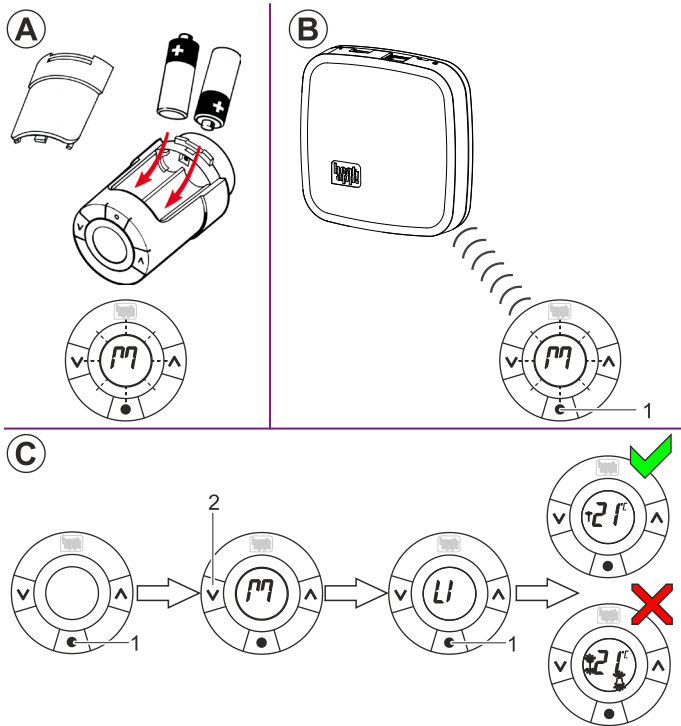

Fig. 8: registering heatapp! drive
2. Unpack a **heatapp! drive** and insert the AA batteries in the battery compartment (Fig. 8, (A)). Ensure you connect the positive and negative terminals correctly!
4. The display on the **heatapp! drive** displays a flashing "M". Now press the learn key (Fig. 8, (B), item 1) in the middle below the display. If the **heatapp! gateway** recognises the **heatapp! drive**, you are requested to enter a name for this actuator (e.g. "Window radiator") and allocate the actuator to a room that was created in the **heatapp! base** set-up.
3. Then on one of the fitted **heatapp! drive** press and hold the key (Fig. 8, , item 1) until "M" is flashing in the display.
4. Now press the key (Fig. 8, , item 2). "LI" is now shown in the display.
5. Confirm the test by pressing key (Fig. 8, , item 1).